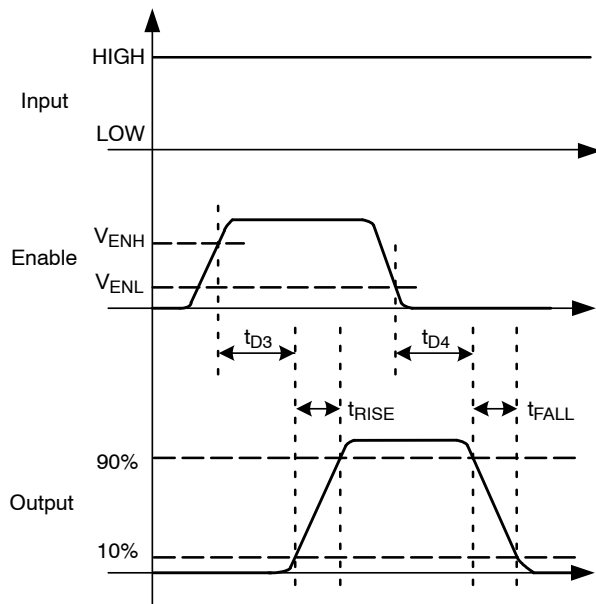
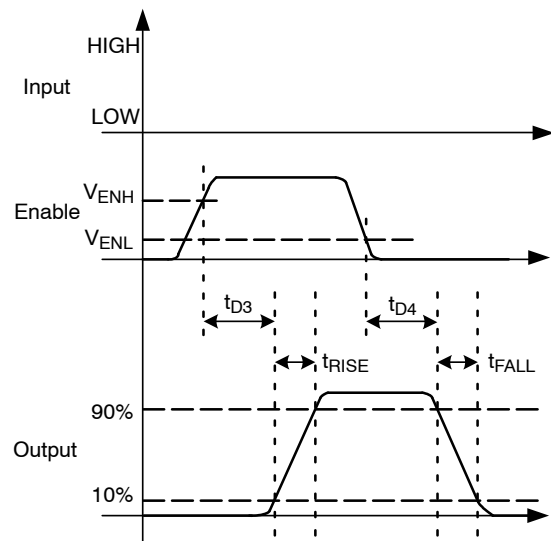

Figure 9. Non-Inverting (IN HIGH)
Figure 10. Inverting (IN LOW)
11. See Timing Diagrams of Figure 9 and Figure 10.